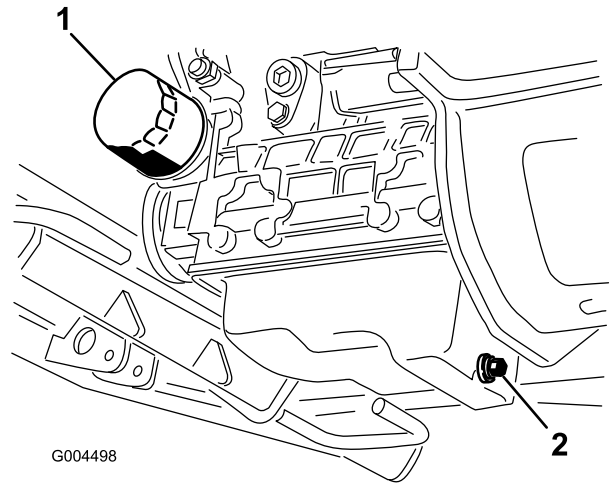

Figure 45
6. Remove and replace the oil filter (Figure 45).
3. Set a drain pan under the oil pan and in line with the drain plug (Figure 45).